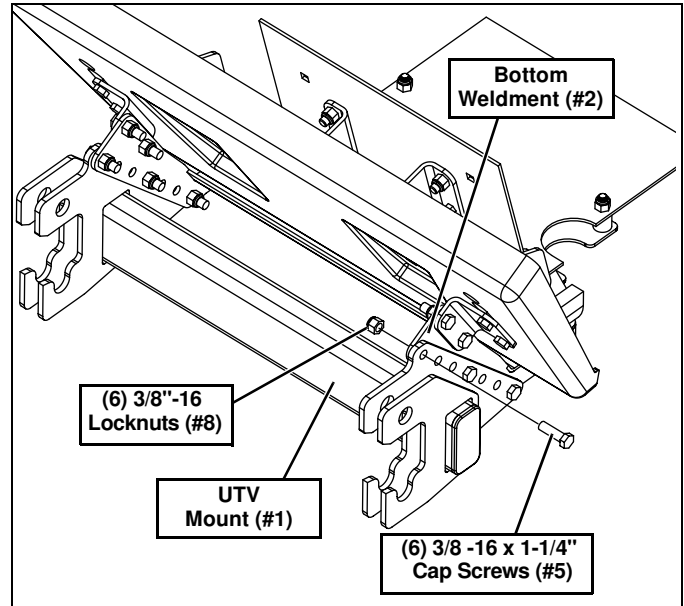

Figure 7
10. Insert (6) 3/8"-16 x 1-1/4" Cap Screws (#5) into the UTV Mount (#1) and through the Bottom Weldment (#2). Secure with (6) 3/8"-16 Locknuts (#8) (See Figure 7).